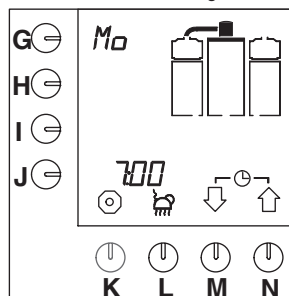

Fig. 11 Example current day and time
- The current day and time appear for a moment on the display (fig.11).
- The current day and time appear on the display (fig.11).